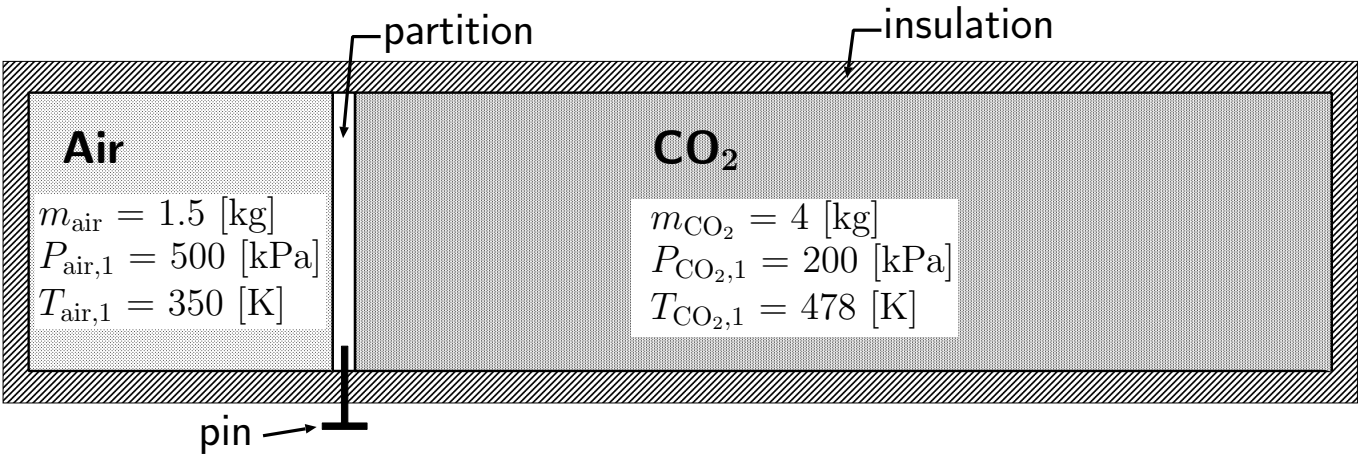

Figure 3: Figure for problem 3
3. A rigid and well-insulated chamber is divided by a partition that is initially pinned in place at the position shown in Figure 3. The partition separates two gases, air and CO₂ gas, and the partition is free to move without friction once the pin is pulled. The partition allows for the transfer of heat between both sides of the chamber. There is 1.5 [kg] of air which is at an initial pressure and temperature of 500 [kPa] and 350 [K], respectively. On the other side of the partition is 4 [kg] of CO₂ gas at an initial pressure and temperature of 200 [kPa] and 478 [K], respectively. Assume the air and CO₂ are ideal gases with constant specific heats. A process occurs whereby the pin is pulled out and the gases in the chamber are allowed to reach a new state of equilibrium in a quasi-equilibrium manner (assume the partition moves very slowly as the states change).